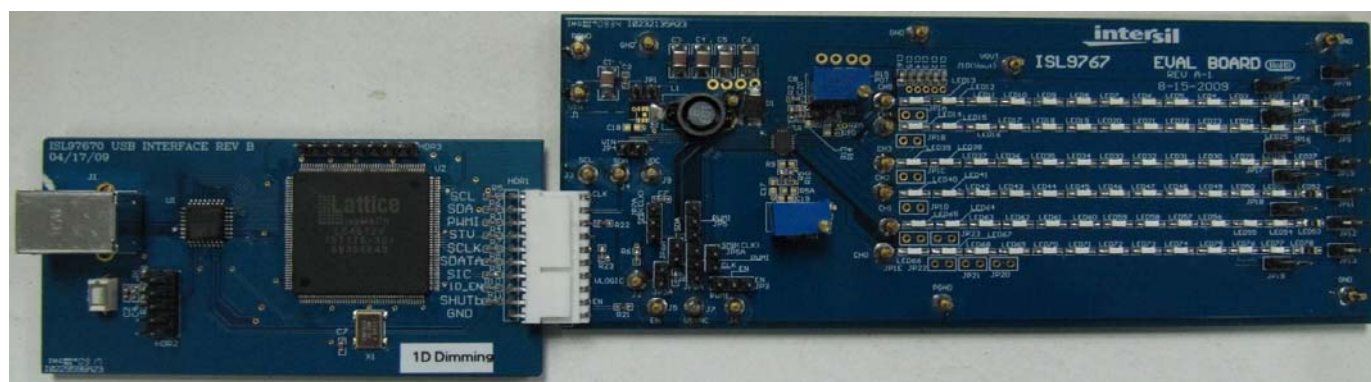

FIGURE 3. I²C INTERFACE BOARD CONNECTED TO ISL97671/2/3/4IRZ-EVAL EVALUATION BOARD
4. Connect the I²C interface board to the ISL97671/2/3/4IRZ-EVAL Evaluation Board as shown in Figure 3.